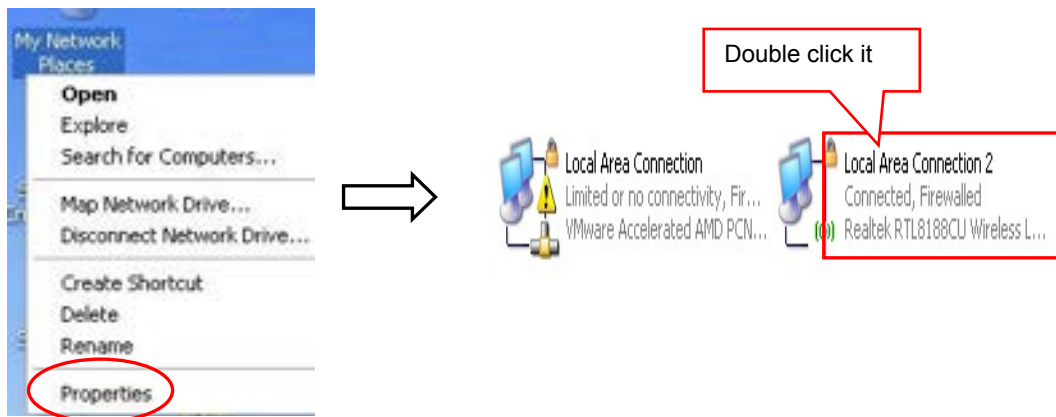

Figure 8
- (1) Get the security mode and encrypt type according to the corresponding network information given by the network administrator
- (2) Find them by entering the router of hotspot with the administrator's account.
- (3) Find them through Windows operating system and the steps are shown below (Take WIN XP as an example):
- ① Right click "My Network Places", and click "Properties", then double click "Local Area Connection 2" (as shown in Figure 8).